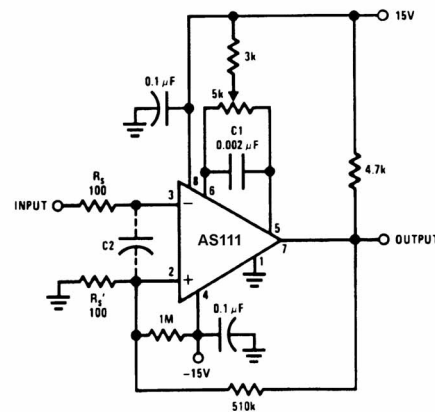

FIGURE 2. Conventional Positive Feedback
6. It is a standard procedure to use hysteresis (positive feedback) around a comparator, to prevent oscillation, and to avoid excessive noise on the output because the comparator is a good amplifier for its own noise. In the circuit of Figure 2, the feedback from the output to the positive input will cause about 3 mV of hysteresis. However, if  $R_s$  is larger than  $100\Omega$ , such as  $50\text{ k}\Omega$ , it would not be reasonable to simply increase the value of the positive feedback resistor above  $510\text{ k}\Omega$ . The circuit of Figure 3 could be used, but it is rather awkward. See the notes in paragraph 7 below.